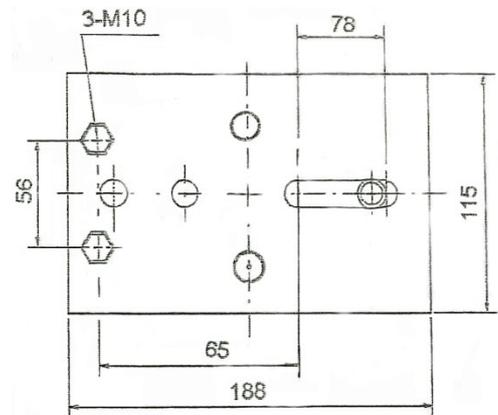

Fig. 1
2. Installing winch at a place should be safe enough to pass-by people, with at least 3 (three) x M8 mm bolts, nuts, flat washers and lock washers to securely fix the winch frame on the mounting structure together (see Fig. 1).